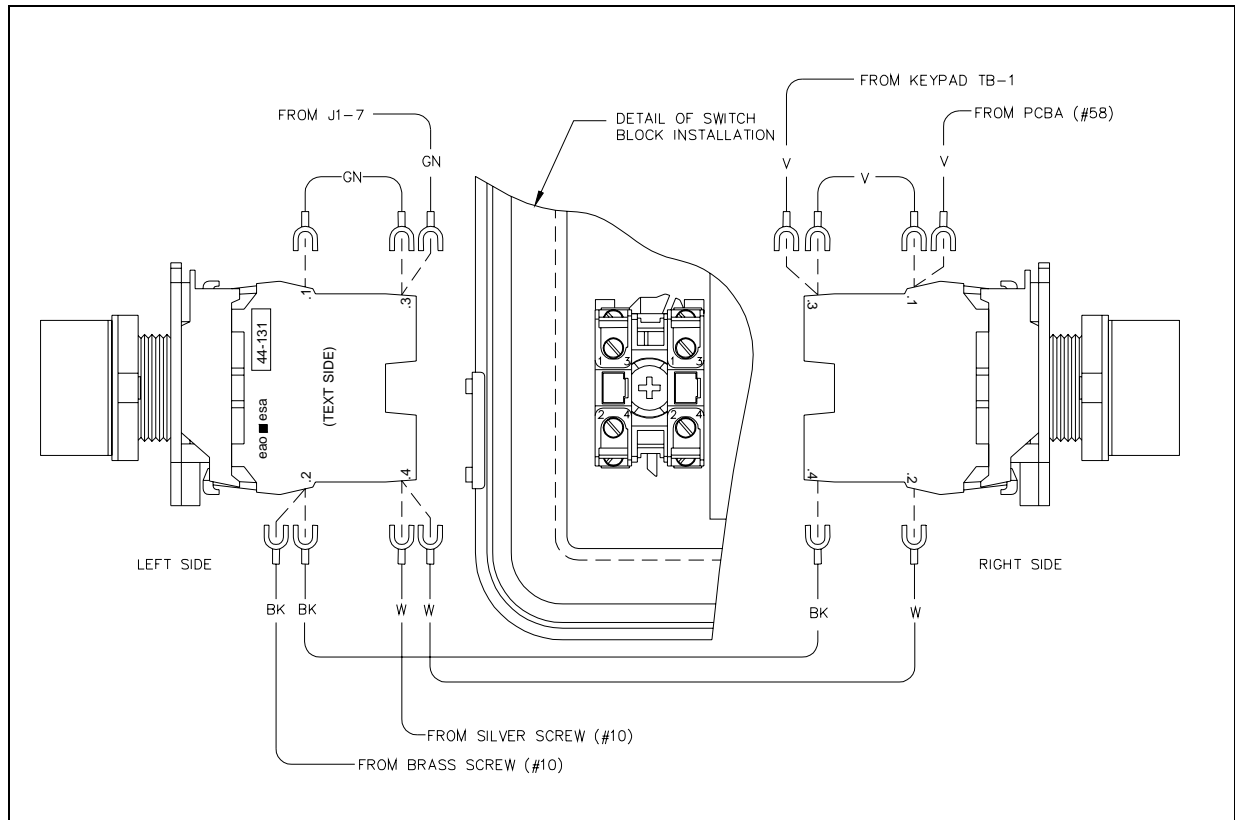

Figure 1.
4. See Figure 1 for proper wiring and switch block orientation. Connect the wires removed from the old switch to the new switch blocks.
5. Connect the jumper wires as noted in Figure 1.
7. Attach the switch blocks by snapping them onto the switch-mounting adapter. Pay careful attention to the proper placement of each switch block per Figure 1.